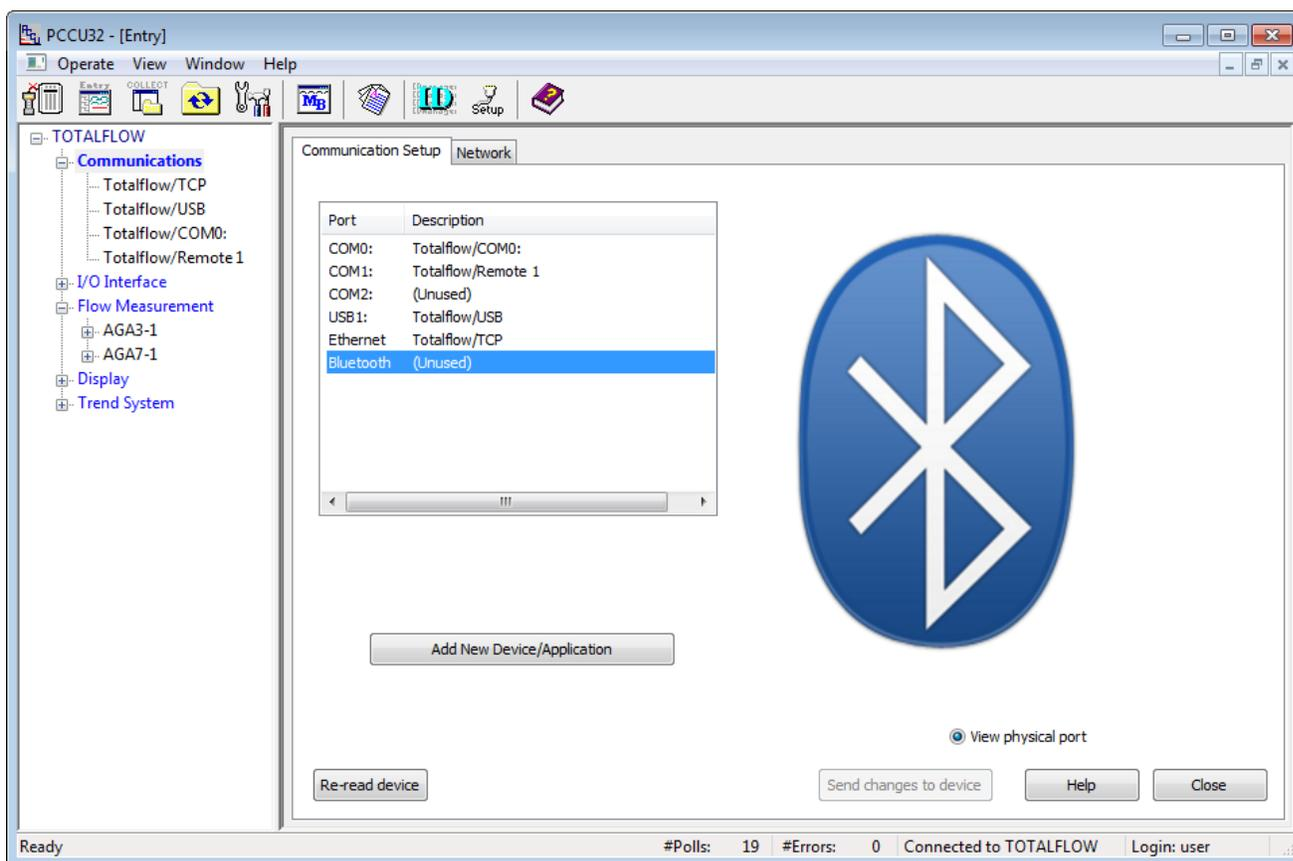

Figure 41: Communications Setup tab - Bluetooth®
5. On the Communications Setup tab, locate the Bluetooth® option within the Port section. Click **Bluetooth®**, then click **Add New Device/Application** (Figure 41).